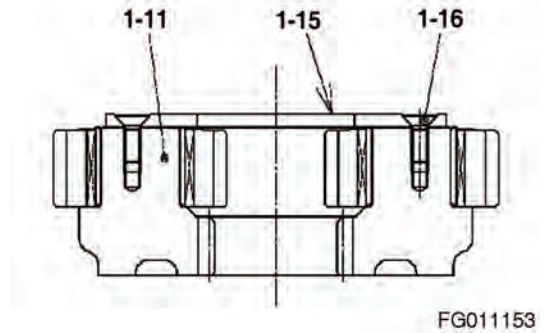

Figure 40
4. Secure holder (1-11, Figure 75) in a vice and loosen screw (1-16, Figure 40) to remove thrust plate (1-15, Figure 40).